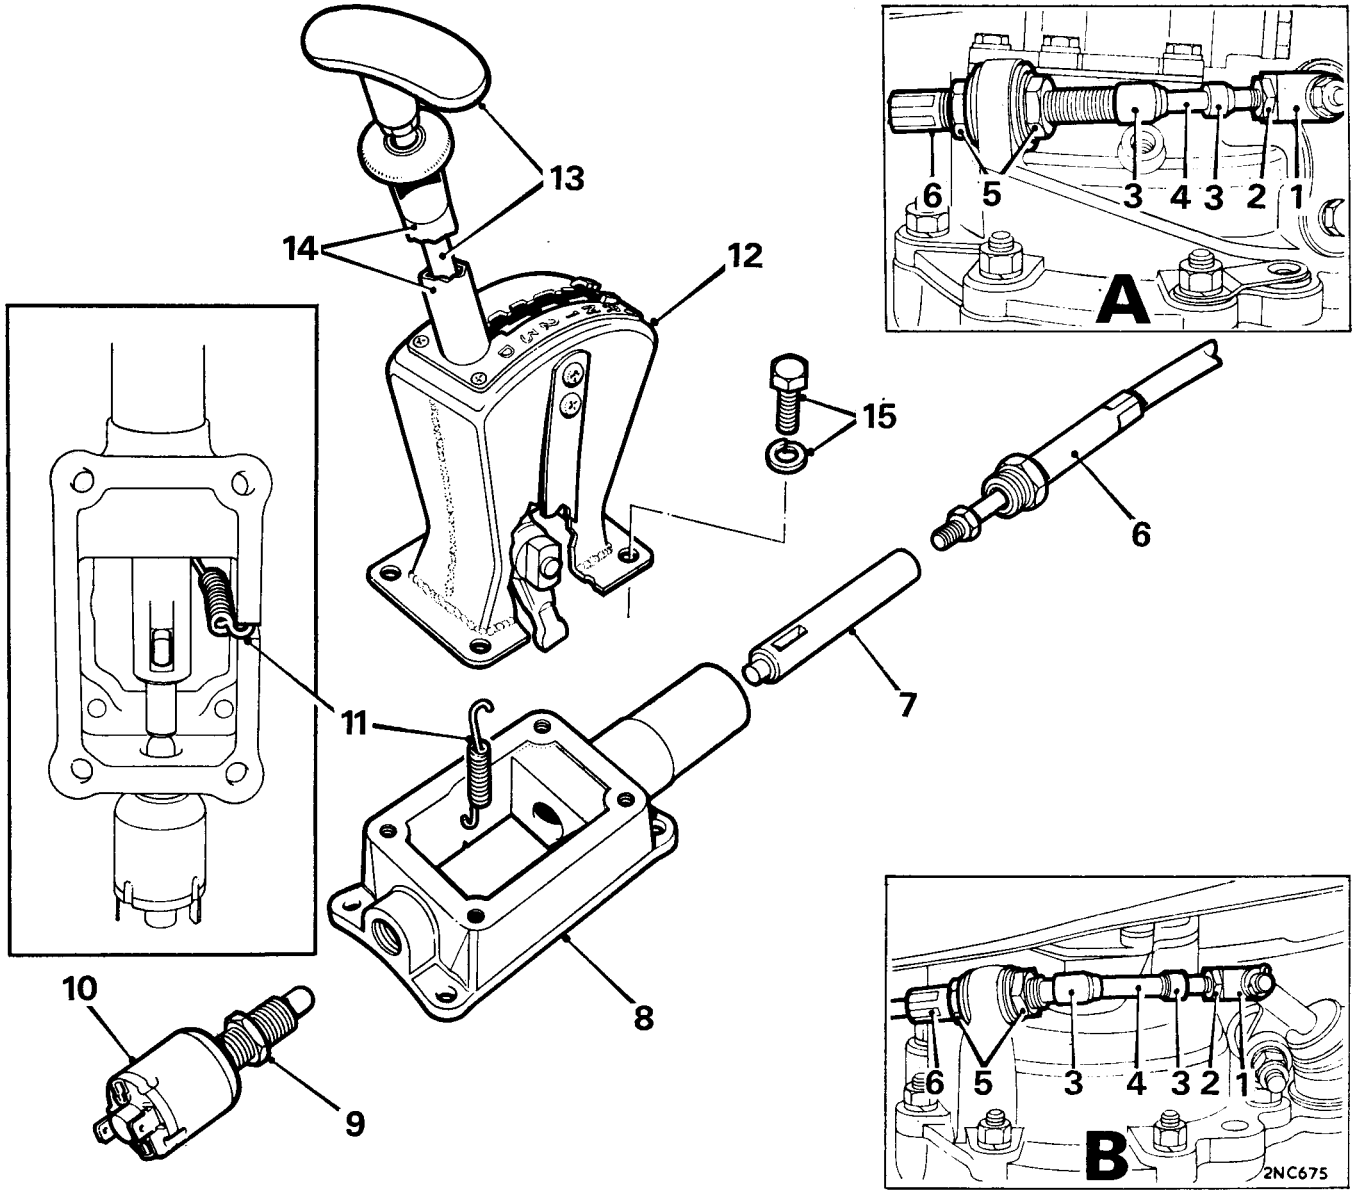

Fig. Fa. 68
10. Reassembly is a reversal of the dismantling procedure. Refer to Fig. Fa.68 and ensure that the gear selector lever (13) is re-inserted into the relieved side of the plunger (7).